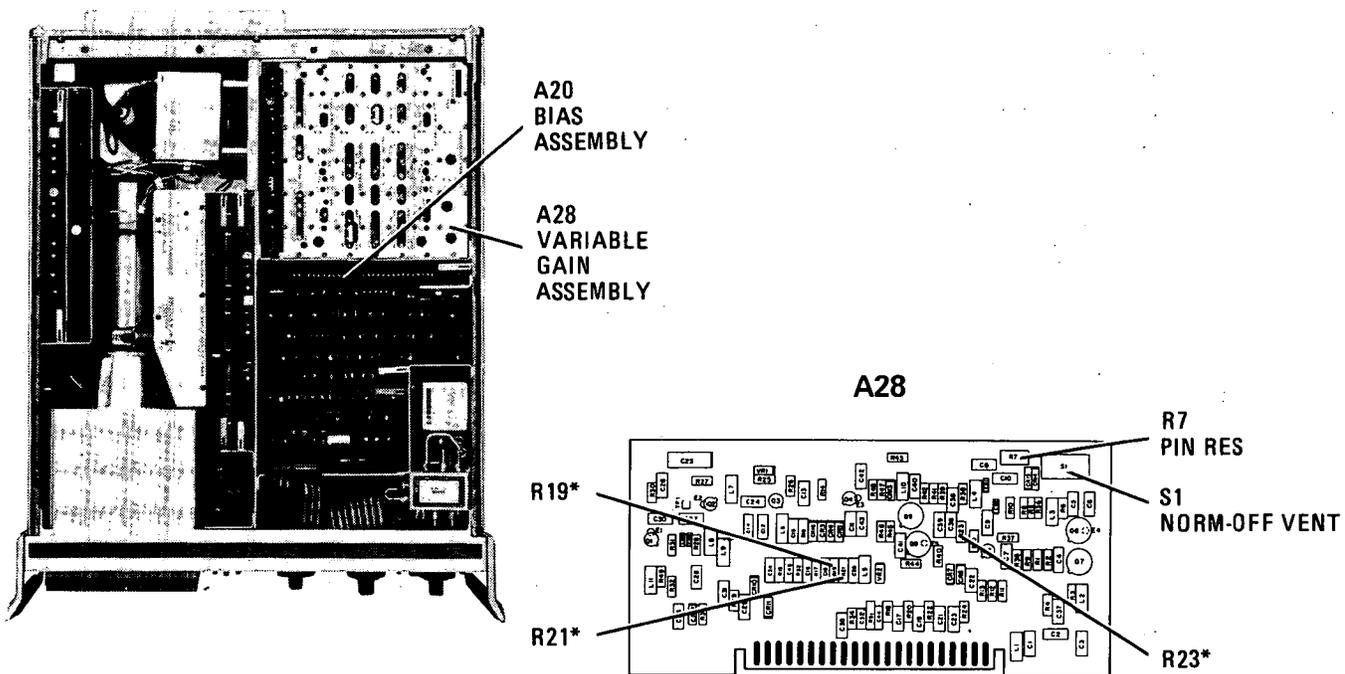

Figure 5-53. Frequency Response Adjustment Locations
5. Set A28S1 NORM-OFF-TEST switch (Figure 5-53) to OFF. Store signal level on screen by setting TRACE B to STORE VIEW after at least one complete sweep.